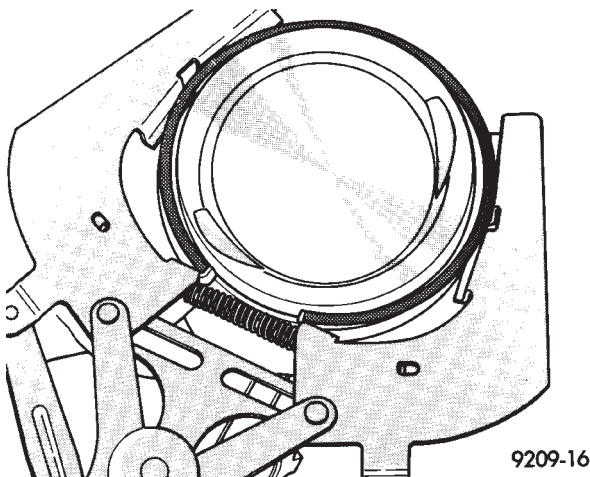

Fig. 64 Installing Upper and Intermediate Rings
(4) Install No. 2 piston ring and then No. 1 piston ring (Fig. 64).